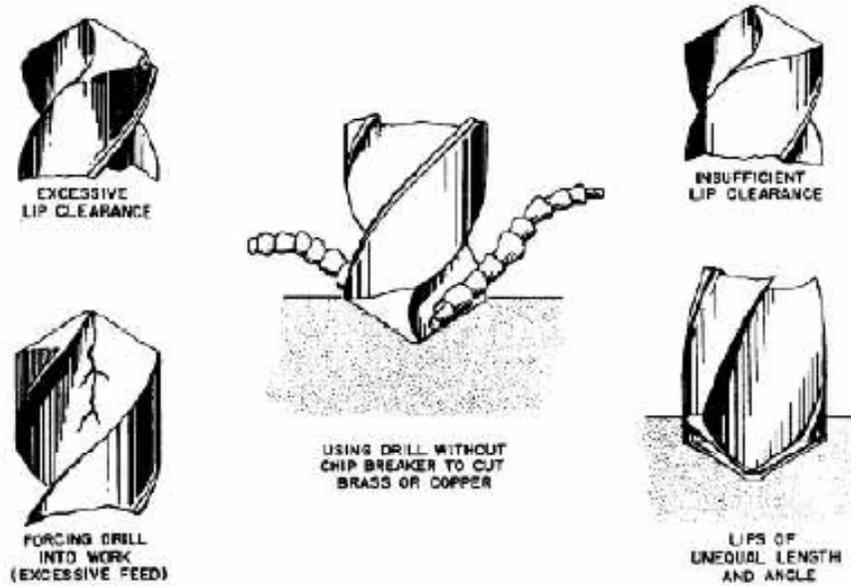

Figure 8-10. Common Drill Troubles and Causes
6. Common drill troubles and causes. (See Figure 8-10.)